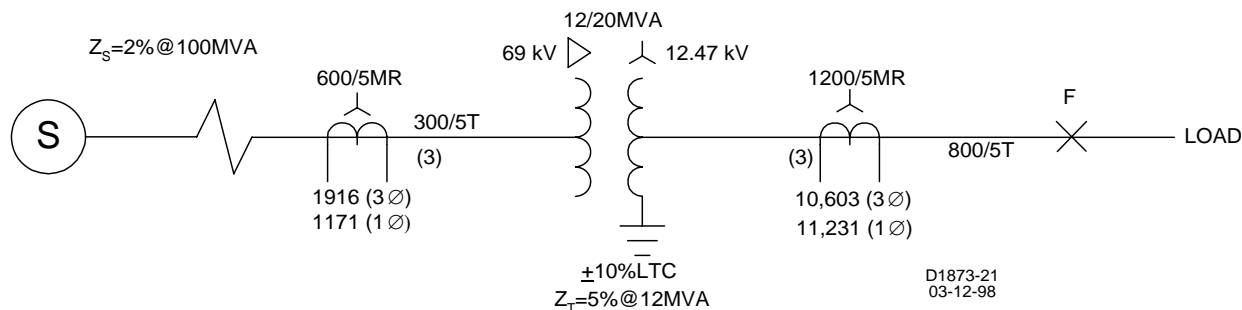

Figure 4-35. Two Winding Transformer Relay Setting Calculation Example
Refer to Figure 4-35 for a one-line drawing of this example.
**Step 3. Three-Phase Units Only:** Adjust the phase compensation jumpers on Analog Board #2, shown in Figure 2-4 (or use the procedure listed in **TESTING THREE-PHASE UNITS WITHOUT CHANGING JUMPERS**, in Section 5). Because of the grounded winding in this example, as shown in Figure 4-35, the high-side and low-side zero-sequence currents must be canceled. Because the CTs are connected in wye and the high-side currents lead the low-side currents by 30°, select the  $\Delta 2$  position. This connection advances the low side phasors by 30° to match the phasors from the high-side.
**Step 12.** Determine the maximum CT secondary fault current for external faults at F ( $I_{F3}$  for three-phase, and  $I_{FG}$  for single-phase). Refer again to Figure 4-35 for this example:
Neglecting  $R_R$ , use  $R_W$  and  $R_L$  from Figure 4-35: